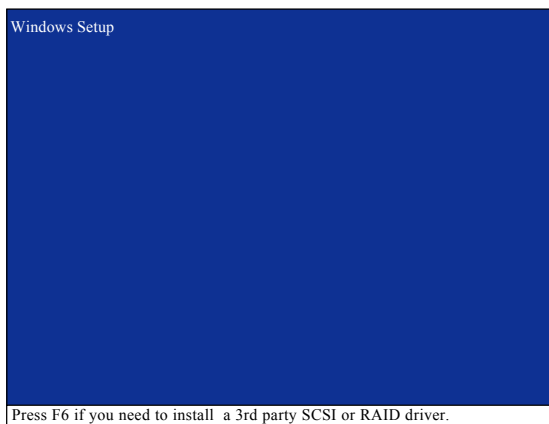

Figure 13
Step 1: Restart your system to boot from the Windows 2000/XP Setup disk and press F6 as soon as you see the "Press F6 if you need to install a 3rd party SCSI or RAID driver" message (Figure 13). After pressing F6, there will be a few moments of some files being loaded before you see the next screen.